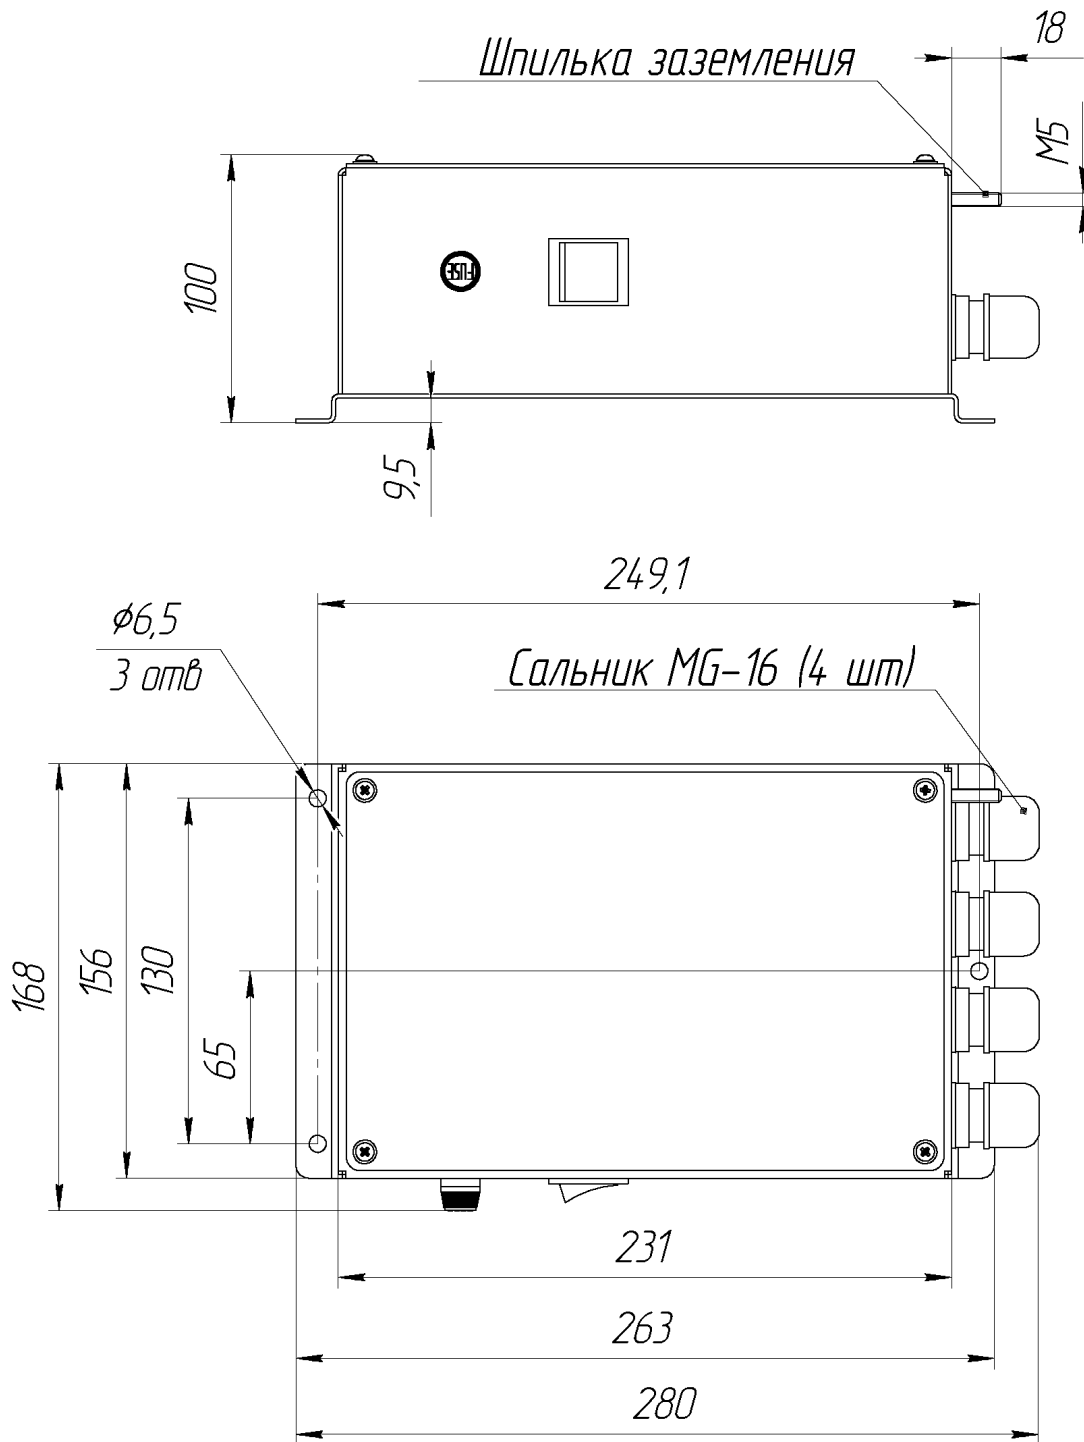

Figure 3. Overall and Mounting Dimensions for PSU.
2. PSU case shall be firmly fastened at the vertical wall, and its fastening reliability shall be checked by hand. Mounting dimensions are specified on the outline drawing (refer to Figure 3).